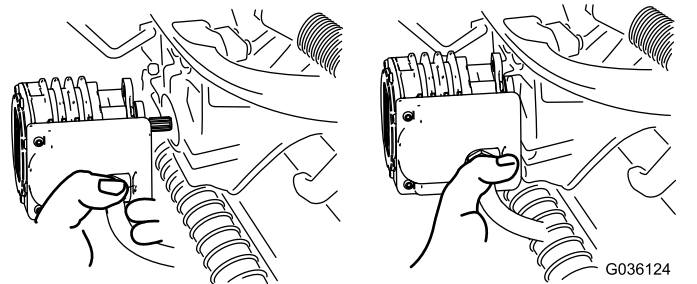

Figure 64
5. Move the motor to the storage location on the front of the suspension arm (Figure 64).